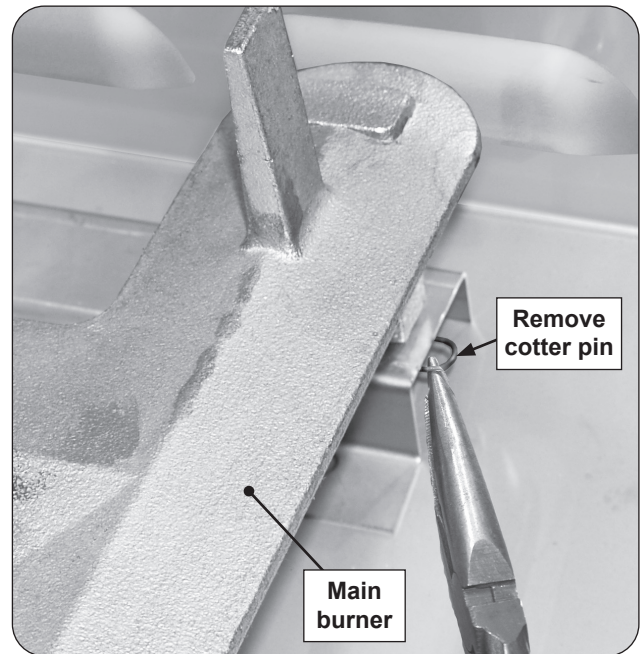

Fig. 43-1 Main burner removal
2. Locate and remove the cotter pin from the left or right rear burner anchoring peg by pulling it straight out of the cotter pin hole using fingers or needle-nose pliers. See Fig. 43-1.